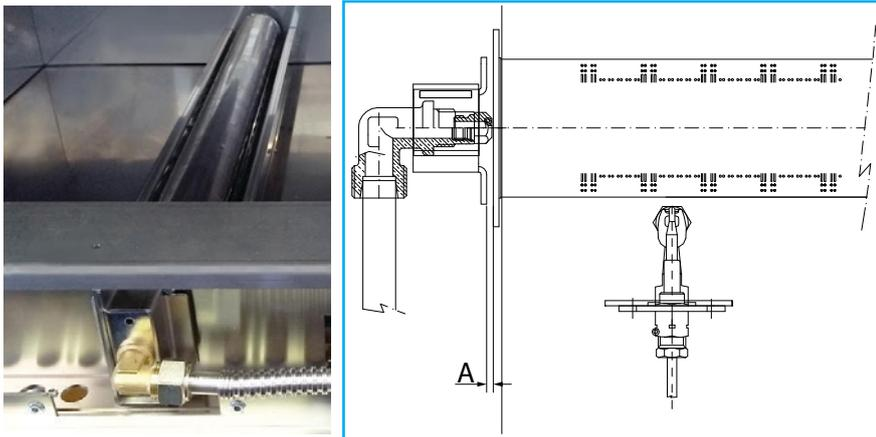

Fig.10.
6. Adjust gas injector to aeration (Fig.10 "A") to the specified distance (see page 9 / 2.1.3)